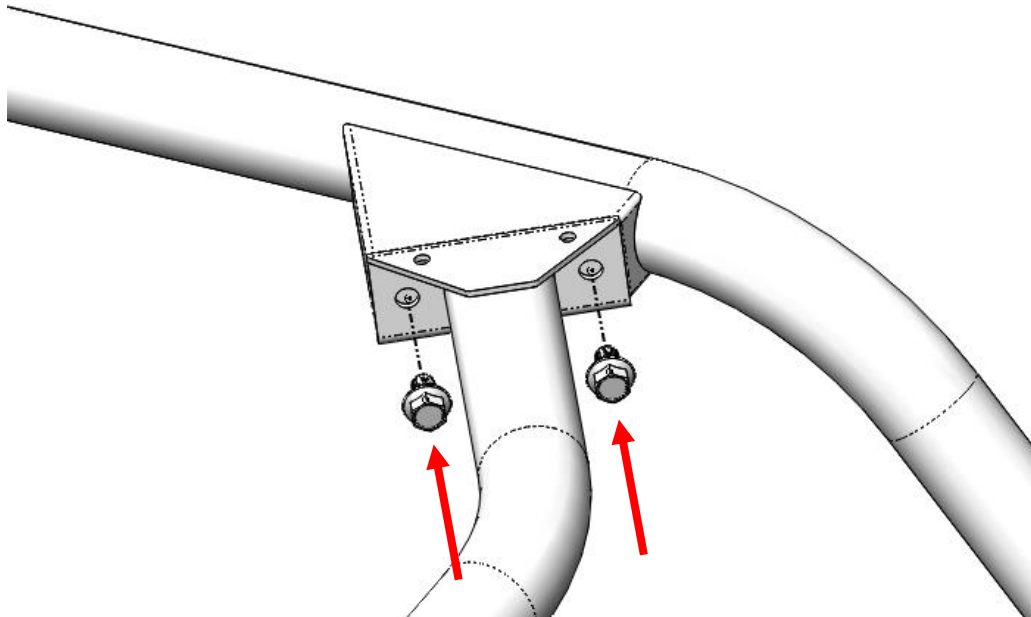
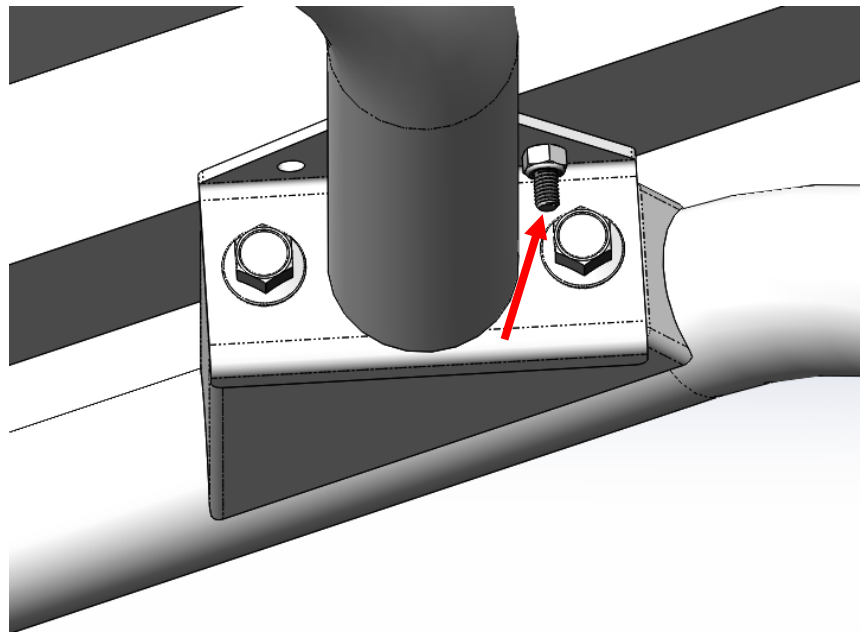

Figure 3: Remove the factory cross member bolts.
Figure 4: Factory roof mounting bolt.
1. Remove the factory bolts from the driver's side of the front cross member. The bolts will not be reused. **Note: If you have a roof installed, remove the front mounting bolts to gain access to the cross member bolts.** See Figure 3 and Figure 4.